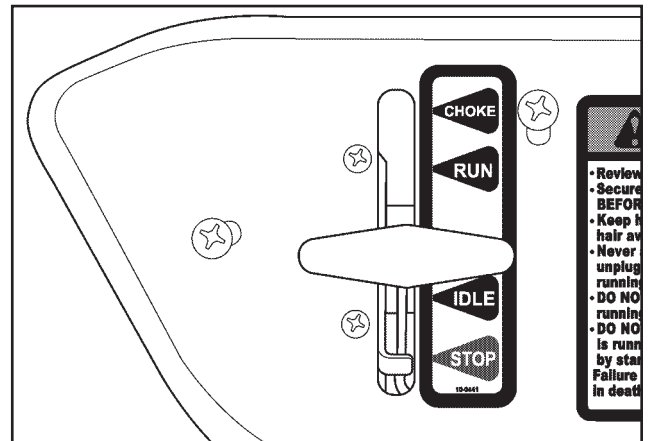

FIGURE 11 Idle Position
5. After the engine has warmed up, slowly place the throttle to the IDLE position (See Figure 11).
1. Place the throttle control slightly past the IDLE position (See Figure 11).
1. Place the throttle to the IDLE position and allow the engine to idle for 30 seconds (See Figure 11 on Page 7).